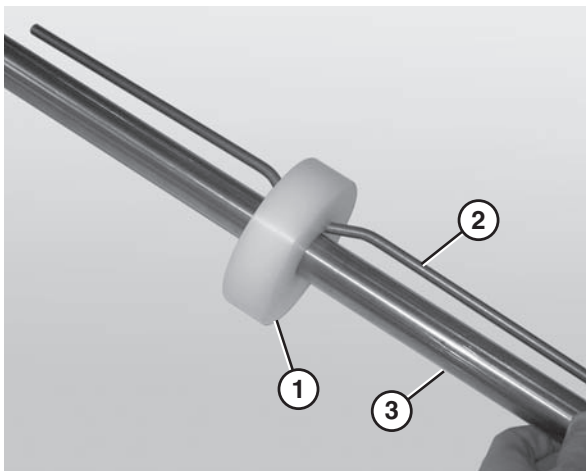

Figure 80
1. Place the idler puck (Figure 80, item 1) at the center of the bent retaining bar (Figure 80, item 2).
2. Slide the idler puck onto the idler shaft (Figure 80, item 3). Make sure to center the idler puck.